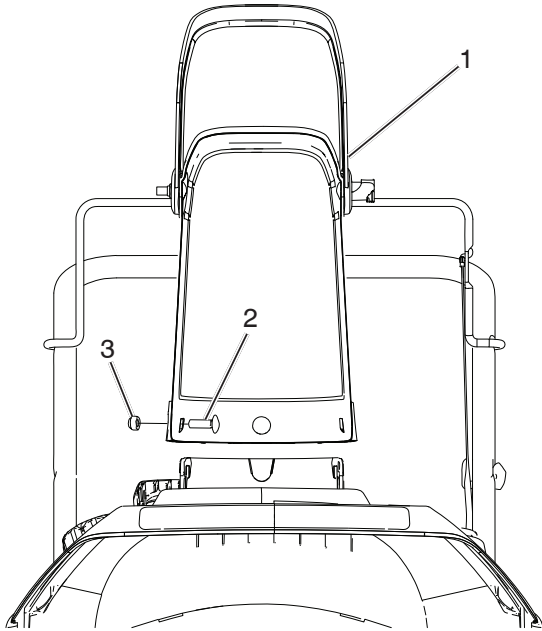

Figure 27
3. Remove the discharge chute, the discharge chute handle by removing the three carriage bolts and flange nuts (Figure 27).
17. Install the discharge chute, and the discharge chute handle onto the snowblower using the hardware removed in step 3 (Figure 27).